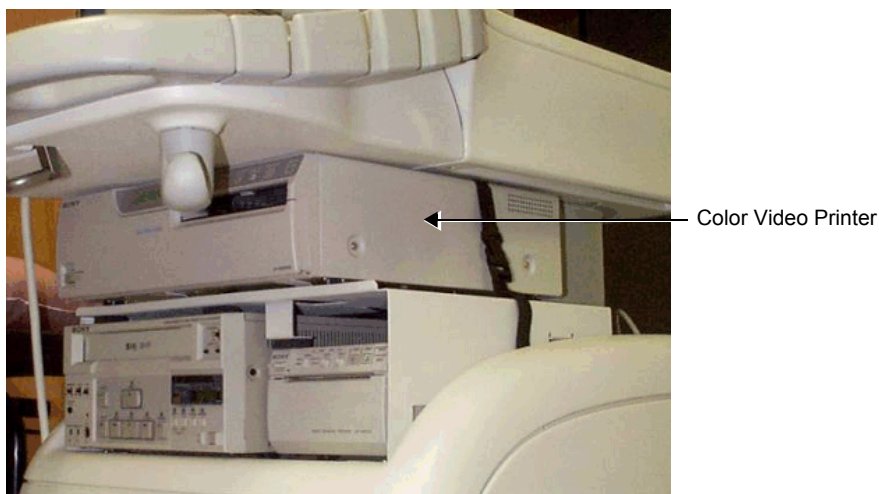

Figure 8-156 Color Video Printer and Shelf Installed on the Vivid™ 3
- 16) Place the Color Video Printer on top of the shelf, allowing sufficient room to access the cables at the rear of the printer, as shown in Figure 8-156 below.